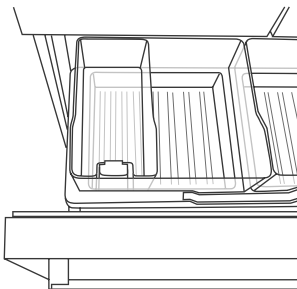

Fig.18 Ice storage bin and scoop in correct position
- If the bin is full, or inserted incorrectly the ice maker will not operate. When the bin is inserted correctly the scoop will be on the front of the bin (refer to Fig.18 on page 25). If all bins are removed the ice maker will not operate.